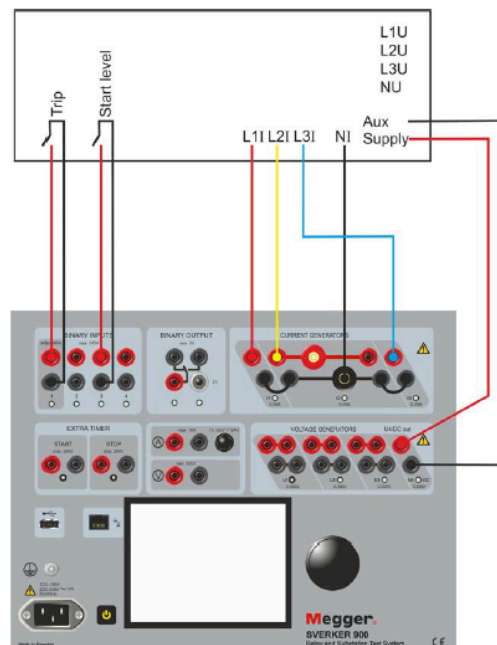

Fig.1 Connecting diagram.
- 1] Connect the SVERKER 900 according to Fig.1, using the aux supply if needed.